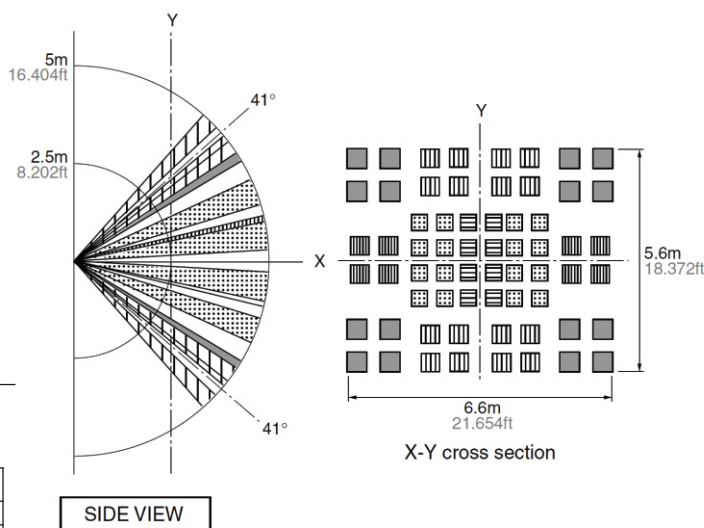

Figure 2: LC1 PIR occupancy sensor range
- 1) PIR Occupancy / Vacancy Sensor** - Auto-dims LED lights when vacant. Brightens immediately when occupied. All timings are fully programmable. The occupancy sensor has a range of 5m (16.5ft) and adequately covers the area below the converted fixture as shown in Figure 2.